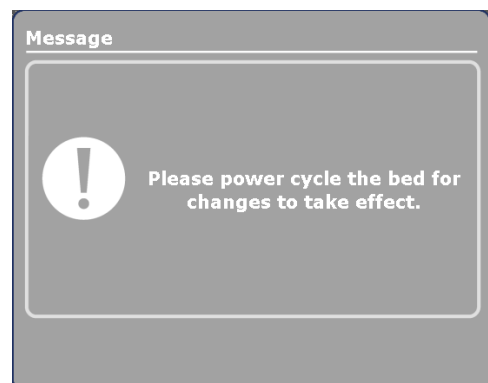

Figure 34: Cycle Power Screen
4. After pressing the **OK** button a Cycle Power screen (Figure 34) will be displayed stating to cycle power on the bed.
5. To cycle power on the bed, turn the battery disconnect switch to **OFF** (O) then unplug the power cord from the wall outlet. Plug the power cord back into the wall outlet then turn the battery disconnect switch back **ON** (I).